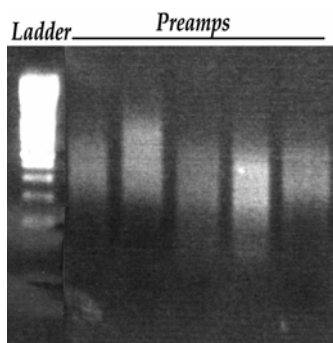

Figure 4 Agarose gel electrophoresis of some PREAMP reactions
- Agarose gel electrophoresis of 5 $\mu$ l of the PREAMP reaction (agarose 1%, 90', 150V) (Figure 4).